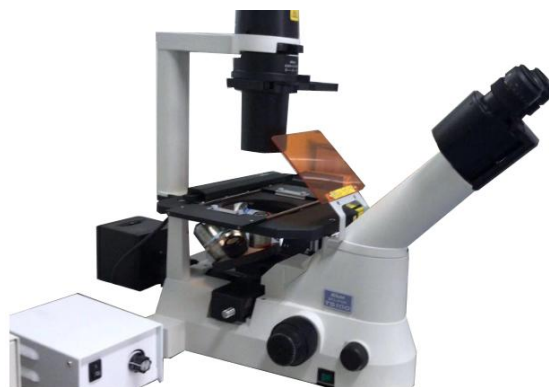

Figure 07
7. Connect the light source control box with the light source illuminator of the module, and the installation is completed, as shown in Figure 07.